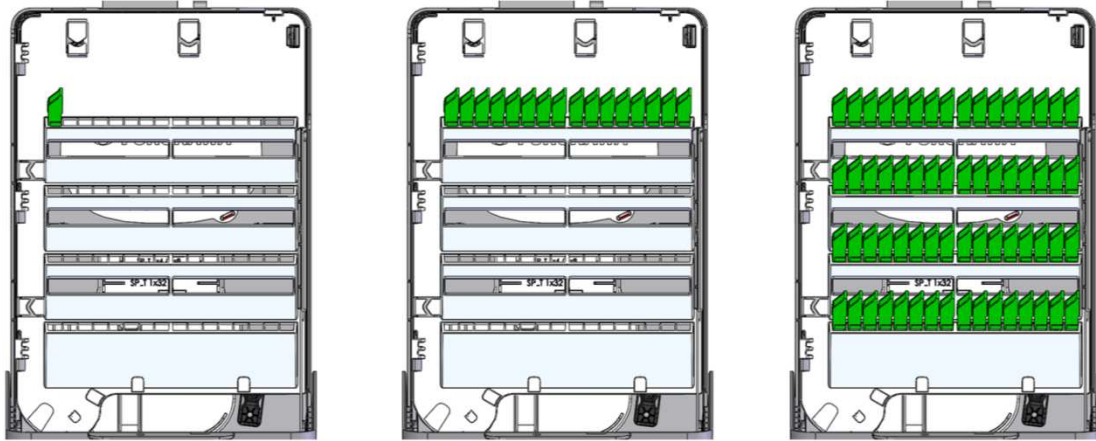

Figure 12
- 1.3.1 Install the adapter into position. Fill from left to right and top to bottom (Fig. 12).